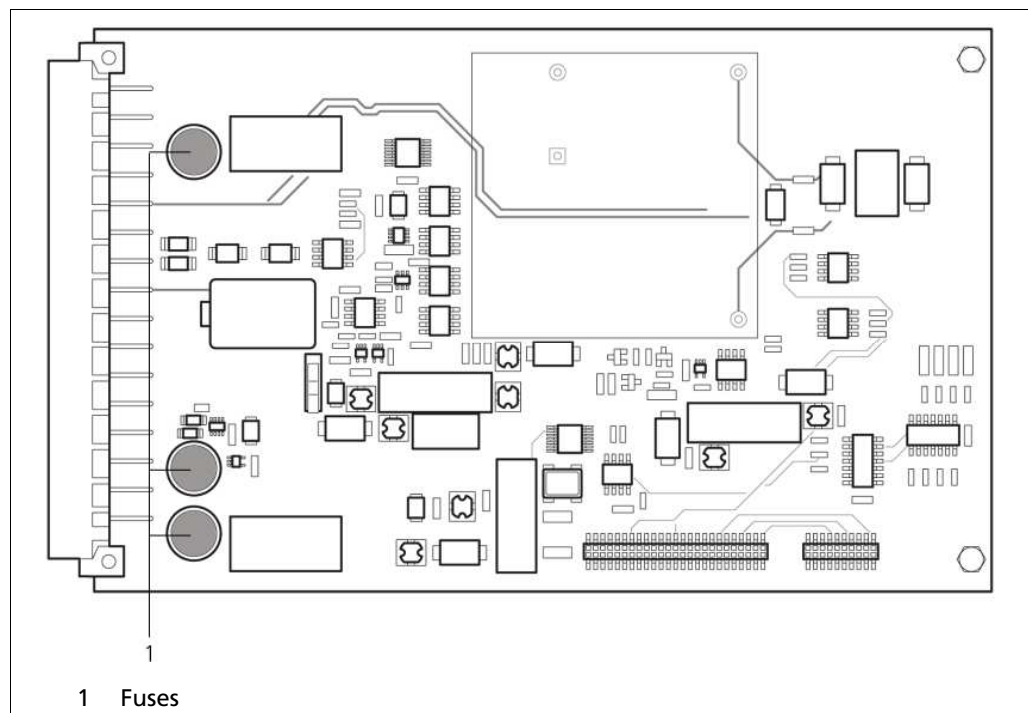

Fig. 1 Extension Module Fuses
6. Pull carefully on the fuses (Fig. 1, Pos. 1) until the top part is fully removed.